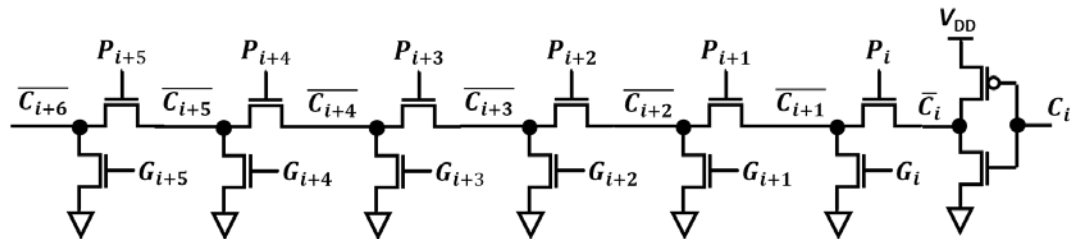

Figure Q2-1. Schematic for a Manchester carry chain.
- (a) Assuming the MC2 that is available is as shown in Figure Q2-1. Draw the schematic of the sum signal logic gate, modified from that in Figure Q1-2, that will give the correct sum bits from the MC2 in Figure Q2-1. To save on area and power consumption, ensure your circuit has the fewest additional inverters.
Figure Q2-3. The MC2 in Figure Q2-1 is partitioned into to stages covering 3-bits in each stage. A static CMOS inverter is inserted to interface the two stages of the MC2.